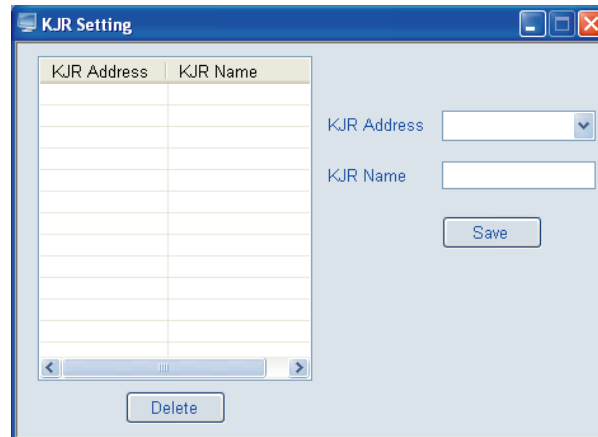

Fig.4-20
①. Click “KJR Setting”, the window as Fig. 4-20 will be display——add wired controller to the system to be monitored.